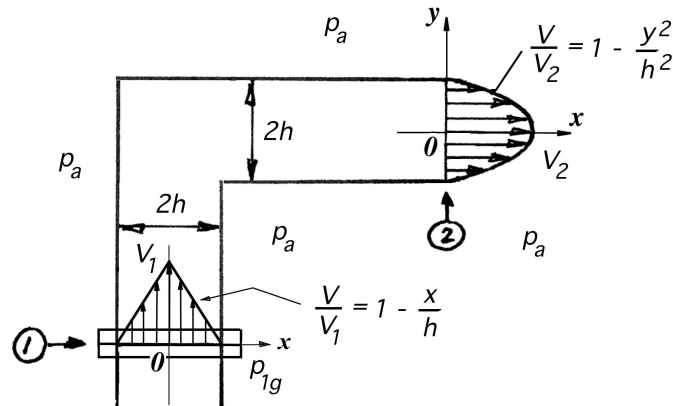

Figure P3.50
3.50 A steady flow of air of constant density ρ issues from a two-dimensional duct of width w and height $2h$, as shown in Figure P3.50, with a velocity distribution that is parabolic with a maximum value of V_2 . The inflow to the duct has a symmetrical, triangular distribution of velocity with a maximum value of V_1 . The pressure is atmospheric at the exit, and the gauge pressure at the inlet is p_{1g} . Ignore the weight of the fluid.